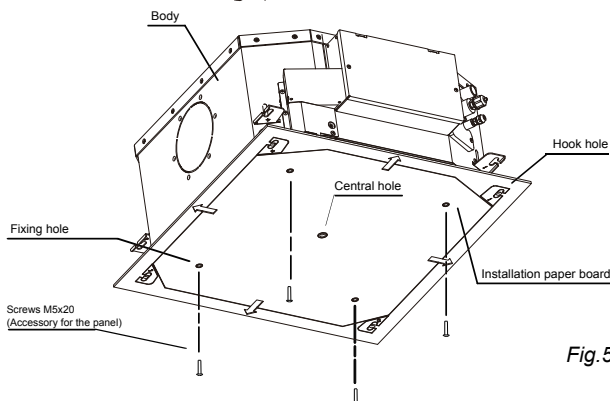

Fig. 5-8
- 2 After installing the body, fasten the installation paper board onto the air conditioner with bolts (M5X20) to pre-determine the sizes and positions of the hole opening on ceiling. (Refer to Fig.5-8)